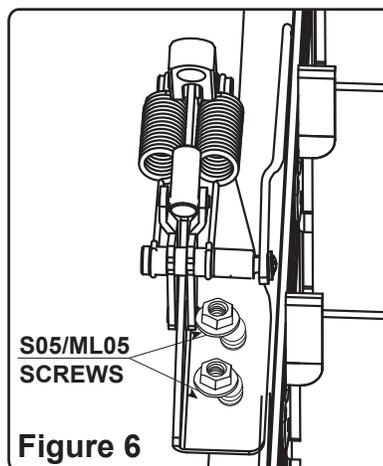

Figure 6
6. Attach the **Frame** of the **Auto Opener** to the **Louver Frame** with the **S05/ML05** screw and nut. See **Figure 6**.